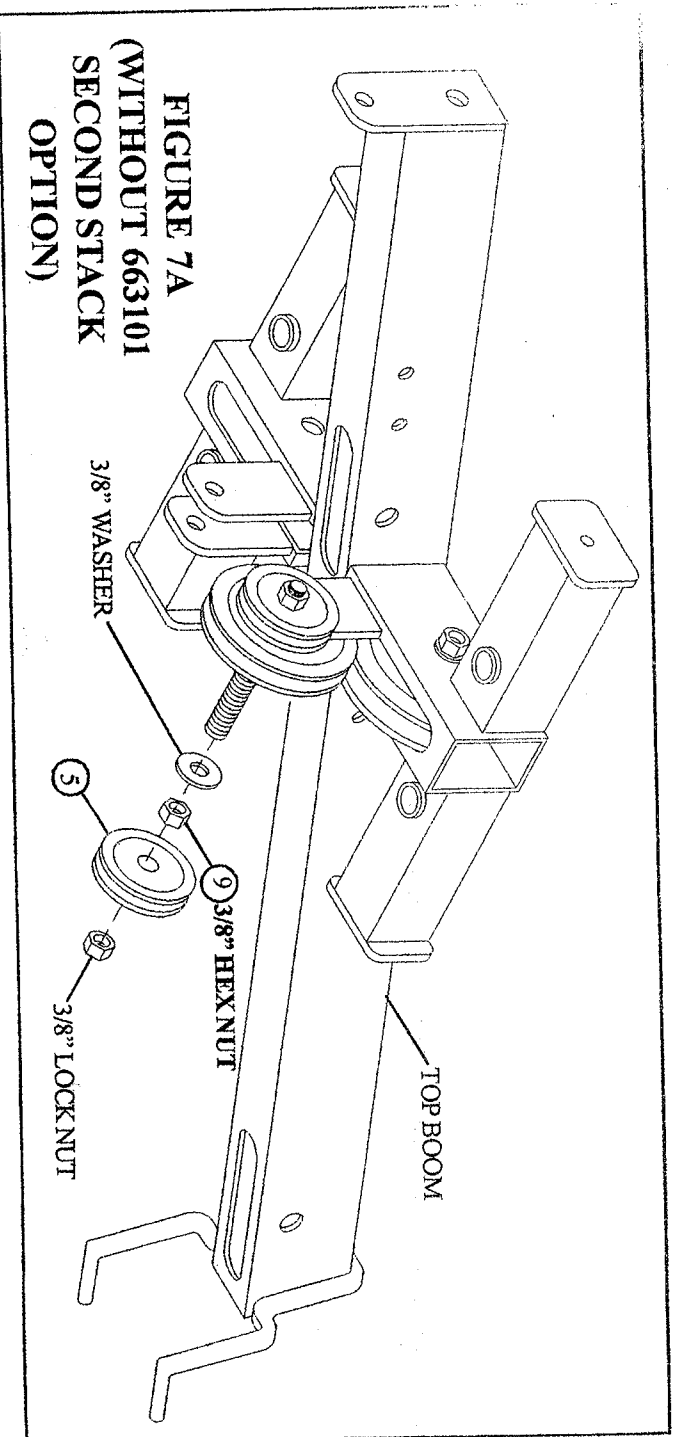

FIGURE 7A
- **SECURELY** assemble one 2" PULLEY (5) to the 3/8" THREADED SHAFT on the TOP BOOM using one previously installed 3/8" WASHER, one 3/8" HEX NUT (9) and one previously installed 3/8" LOCK NUT as shown in FIGURE 7A.